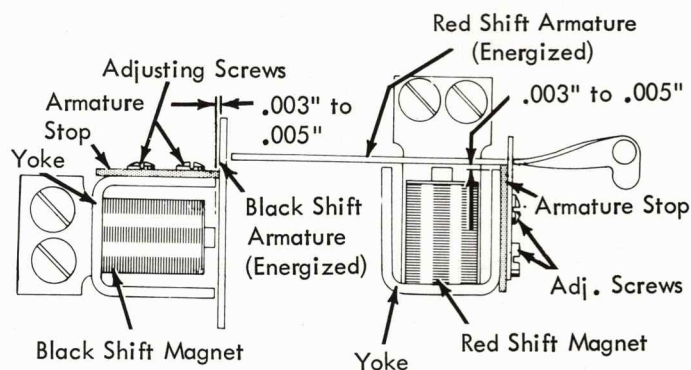

FIGURE 198. Armature Stops
- b. With the armatures energized, position the armature stops so that the armatures clear the magnet yoke by .003" to .005" (Fig. 198).